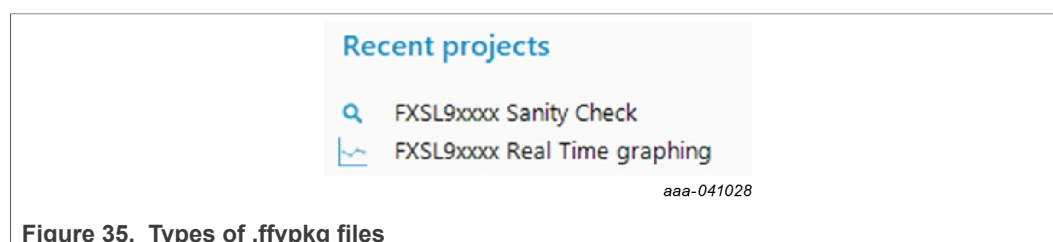

Figure 35. Types of .ffvpkg files
- Test File (See the magnifier icon in Figure 35.)
- Datalogger File (See the graphing icon in Figure 35.)